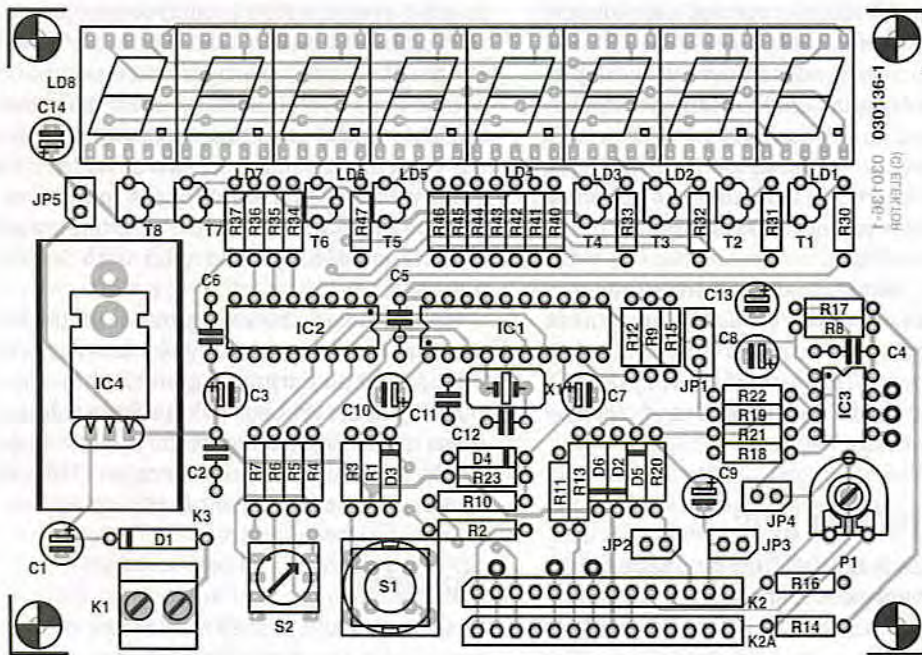

Figure 2. This double-sided board allows the versatile instrument to be built in a very compact way.
**Figure 2** shows the double-sided printed circuit board designed for the Multifunction Frequency Meter. Despite its small size there are no dreaded SMD components to fit — all com-